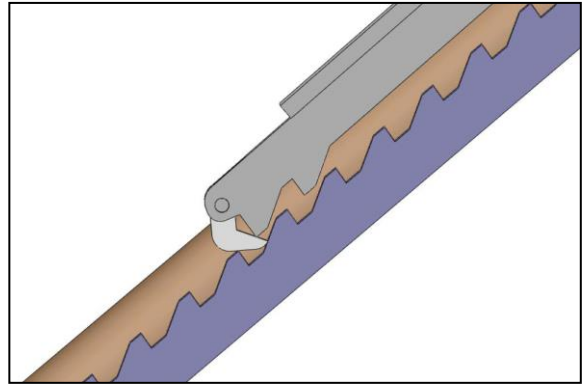

Fig. 31
2. Turn on the power switch, push button **UP**, raise the lift until the mechanical safety device is released (**See Fig.31**). push button **DOWN** to lower the lift, the lift is lowered continually and stopped at the height 113/4in from ground. Keep feet clear off lift, push button **DOWN** while push the **Lowering Alarm Button(black)** at the side of control cabinet, the lift will be lowered to ground with alarm tone;